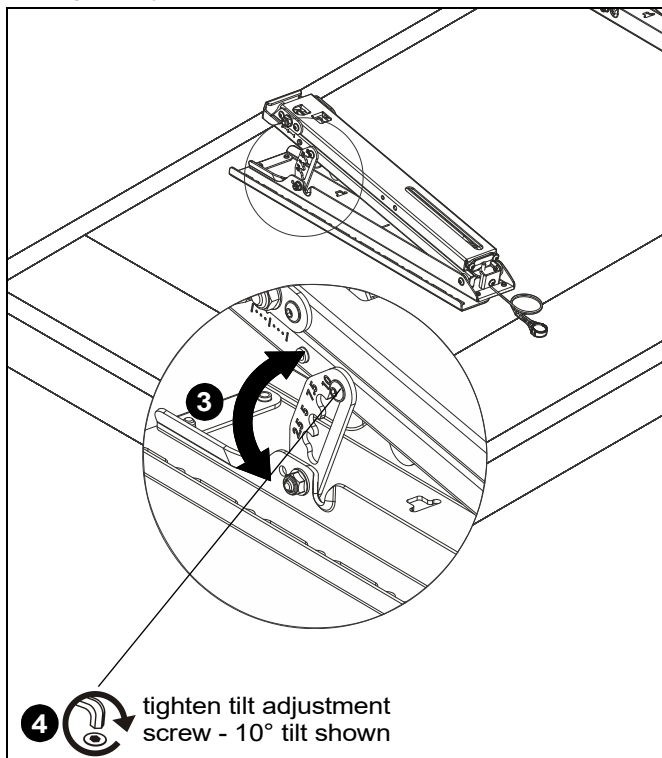

Figure 27
3. Adjust tilt to desired tilt angle. The tilt may be adjusted in 2.5" increments. (See Figure 27)
4. Tighten tilt adjustment screws to lock tilt position. (See Figure 27)